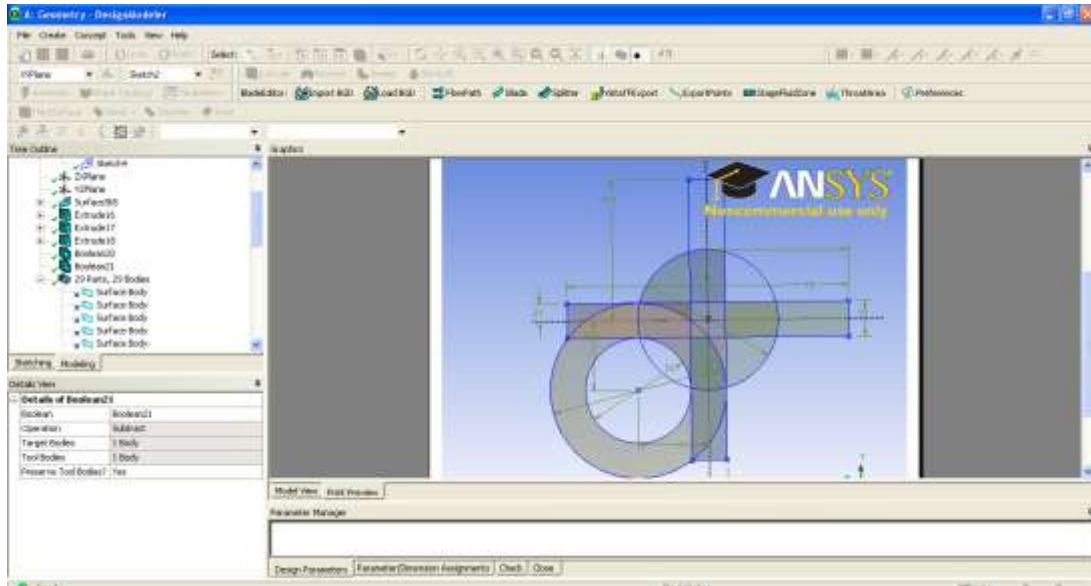

Fig. 3. Split of surfaces into the smaller ones.
5. The aim is to obtain as many small surfaces as possible (fig. 3). Still some surfaces have to be split into smaller ones. One can use **Create/Boolean/Subtract** option to subtract some surface(s) from the other (change **Preserve Tool Bodies** from No to Yes).